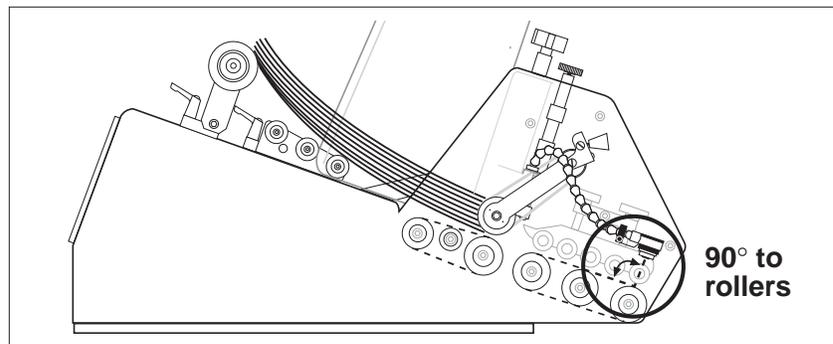

Figure 20. Adjusting Photo Sensor for Perpendicular Position
1. Aim and align the photo sensor straight toward (perpendicular to) the product (Figure 20). If the photo sensor is at an angle, the light will not be reflected straight back to the receiver.